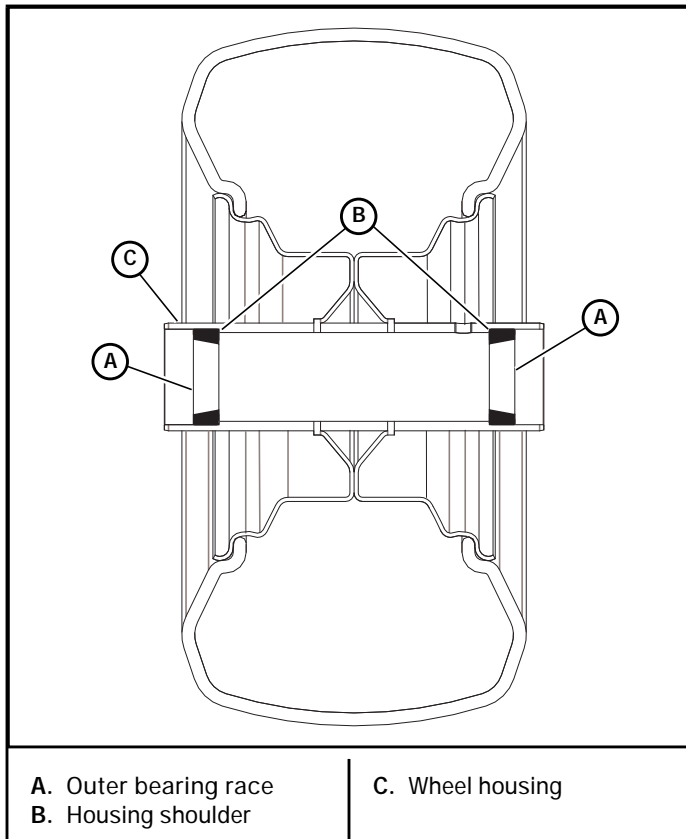

Figure 6-31
1. Press the new outer bearing races into the wheel housing until they are fully seated against the housing shoulder. Figure 6-31